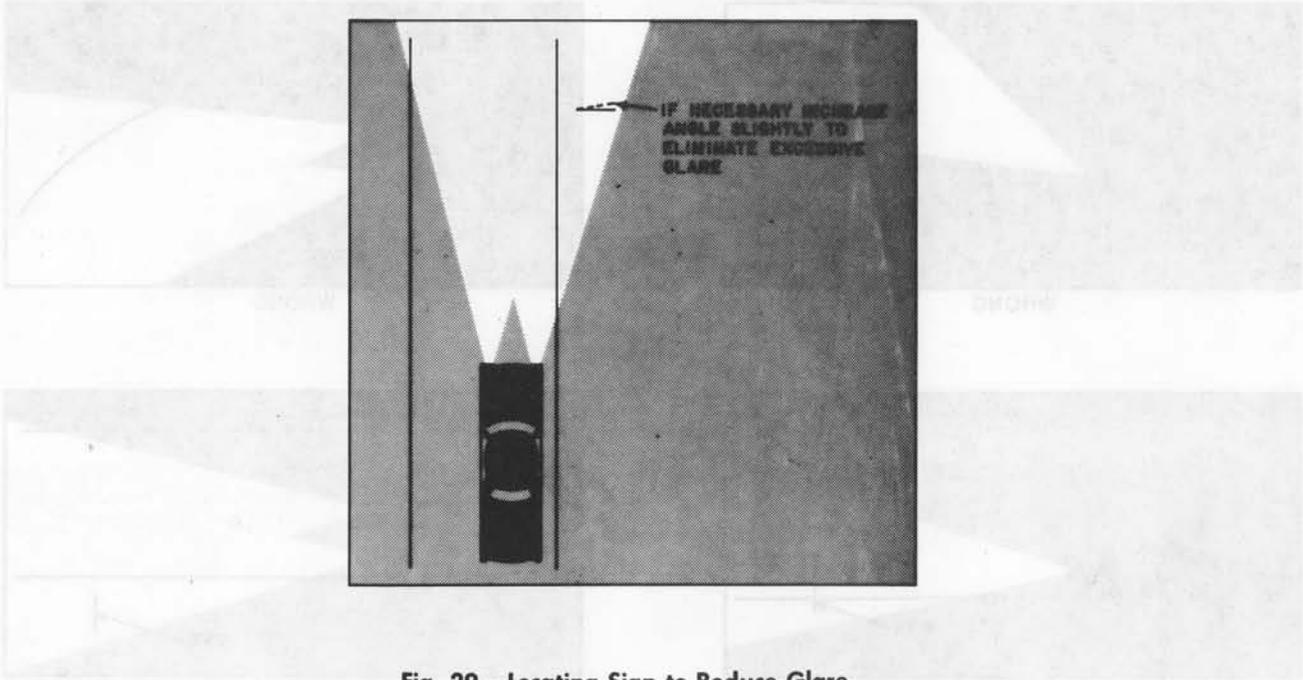

Fig. 29—Locating Sign to Reduce Glare
3.10 When excessive glare from the face of the signs affects its legibility, turn sign slightly away from road as illustrated in Fig. 29.